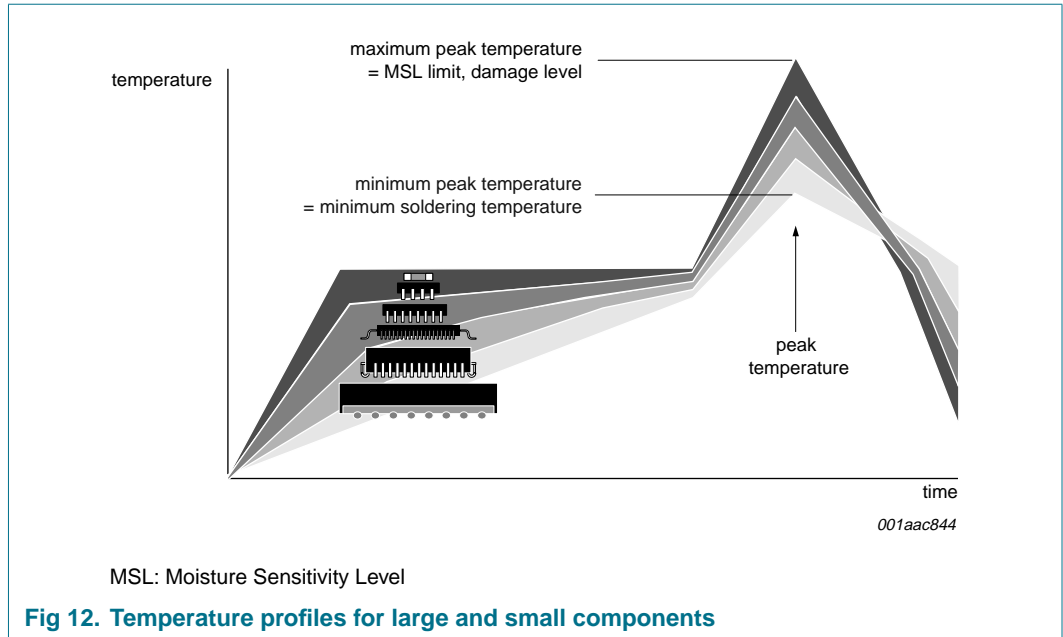

Fig 12. Temperature profiles for large and small components
- Lead-free versus SnPb soldering; note that a lead-free reflow process usually leads to higher minimum peak temperatures (see Figure 12) than a PbSn process, thus reducing the process window
Studies have shown that small packages reach higher temperatures during reflow soldering, see Figure 12.